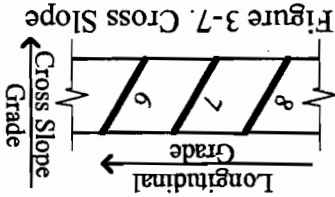

Figure 3-7. Cross Slope
■ **Cross Slope** — Slope *across* the short axis of a plane surface. Figure 3-7 shows a plane surface that has cross slope and longitudinal slope. Notice that the contour lines cross the plane surface diagonally. Most plane surfaces have both longitudinal and cross slope. Important point: On plane surfaces, the longitudinal slope is measured along the long axis, while the cross slope is measured across the short axis.